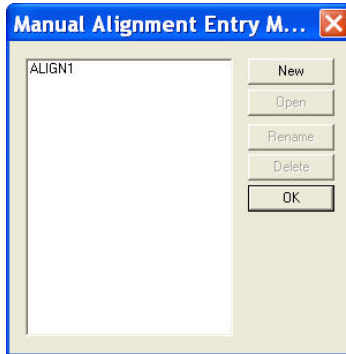

Figure 13-18. Manual Alignment Manager
The *Manual Alignment Entry Manager* dialog box appears (Figure 13-18).
3. Click the **New** button on the *Manual Alignment Entry Manager* dialog box (Figure 13-18 on page 13-16). The data entry/editor dialog box appears. Table 13-2 describes the Manual Alignment Entry Manager buttons .